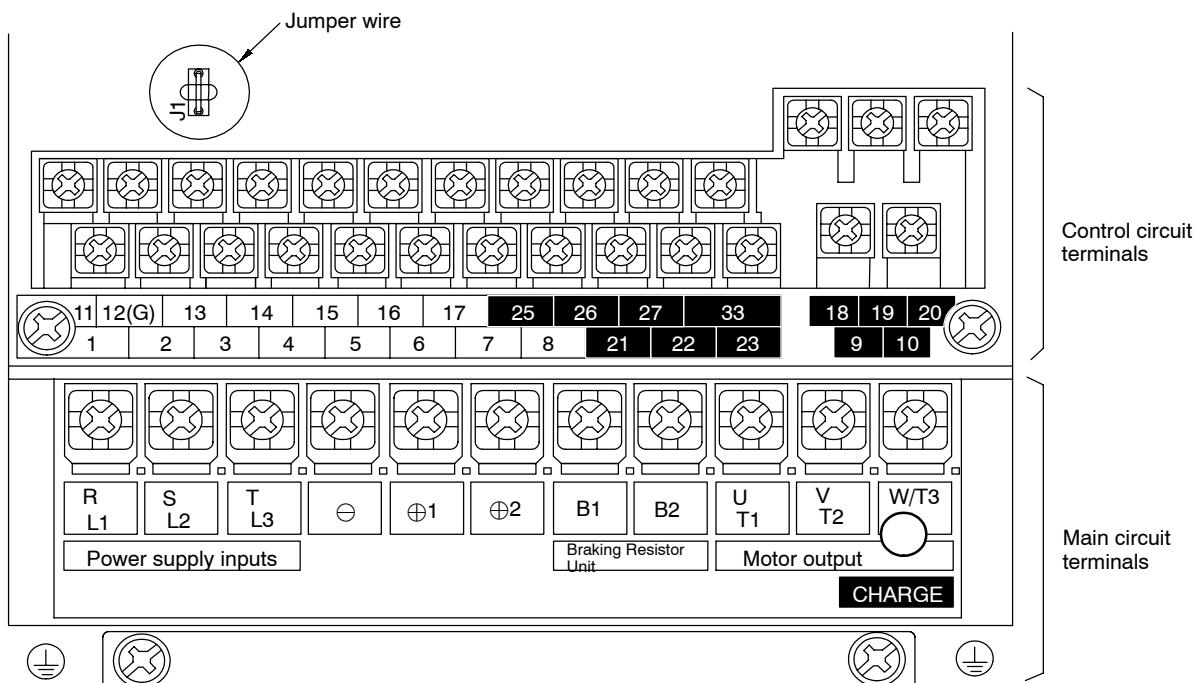

Fig 7.11 Jumper Wire Location for 200 V Class Inverter of 0.4 kW
- When supplying a voltage input to the frequency reference current input (terminal 14) (a setting of 0 or 1), be sure to disconnect jumper wire J1 on the control board. (See *Figure 7.11*.) If the jumper wire isn’t disconnected, the input resistor will be destroyed.